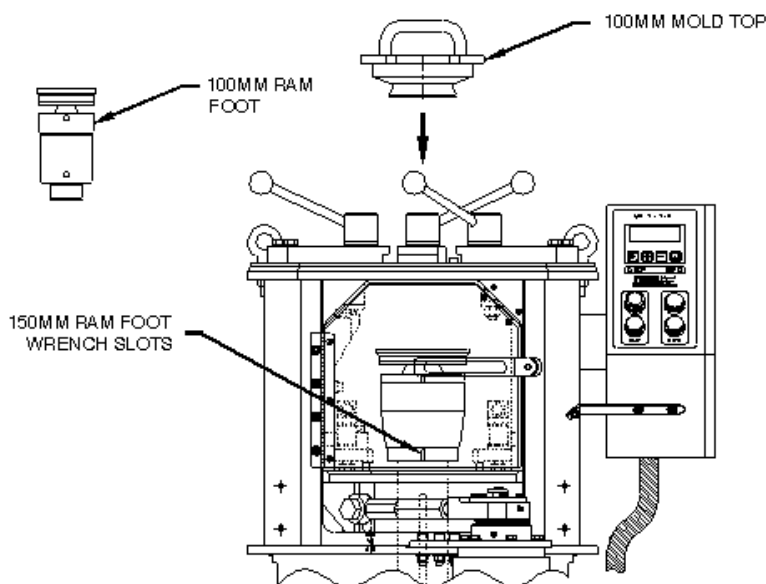

Figure 4.4: 100mm Conversion
The AFG1A Gyratory Compactor automatically records the specimen height, angle of gyration, and consolidation pressure per gyration. The recorded data may be automatically sent to the printer, serial port, and floppy drive when the compaction is complete. Data from 20 tests are stored in the compactor memory and may be transmitted after the compaction is complete. A sample of the data file format is provided (Figure 4.4).
- Extend the ram by pressing the **RAM UP** button until the ram foot is above the swivel frame. Remove the 150mm ram foot with the spanner wrench supplied with the 100mm-conversion kit. Reference Figure 4.4. The 150mm ram foot is threaded onto the ram with standard right hand threads. Place the 1-1/8" combination wrench supplied with the AFG1A tool kit around the spanner wrench handle for additional leverage if necessary to remove the ram foot.